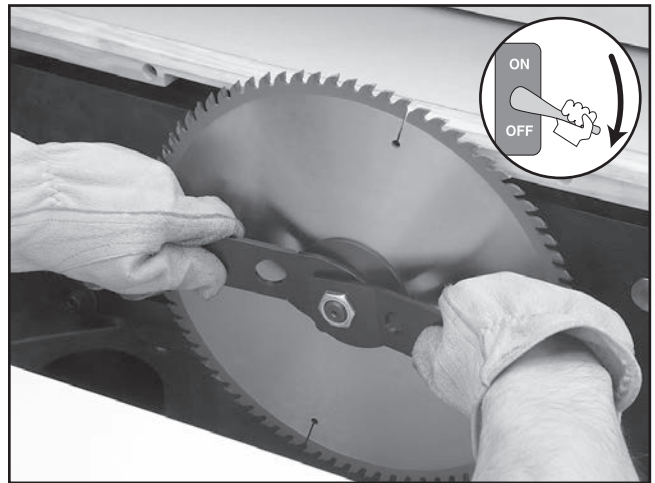

Figure 78. Replacing the main blade.
5. Use the arbor wrenches, as shown in **Figure 78**, to remove the arbor nut and arbor flange, then pull the old blade off the arbor. *The arbor nut has left hand threads and loosens by turning clockwise.*